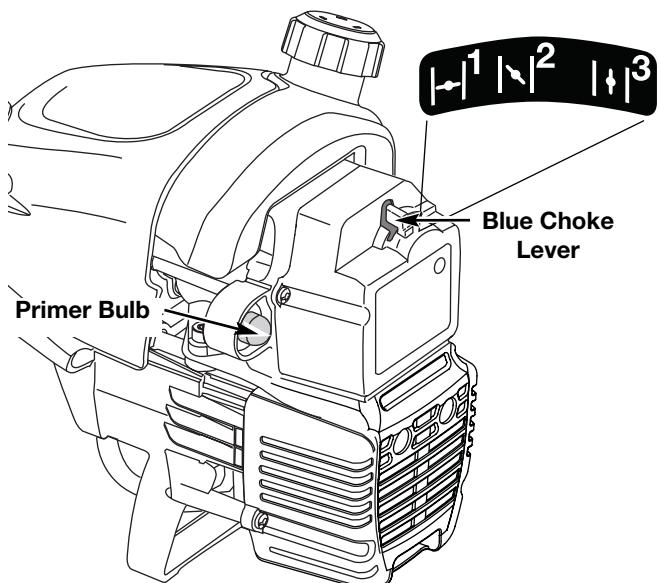

Fig. 10
2. Fully press and release the primer bulb 10 times, slowly. Some amount of fuel should be visible in the primer bulb and fuel lines (Fig. 10). If you can't see fuel in the bulb, press and release the bulb as many times as it takes before you can see fuel in it.
3. Place the blue choke lever in **Position 1** (Fig. 10).
5. Place the blue choke lever in **Position 2** (Fig. 10).
8. Once the engine is warmed up, place the blue choke lever in **Position 3** (Fig. 10). The unit is ready for use.
- IF...** the engine hesitates, return the blue choke lever to Position 2 (Fig. 10) and continue warm-up.